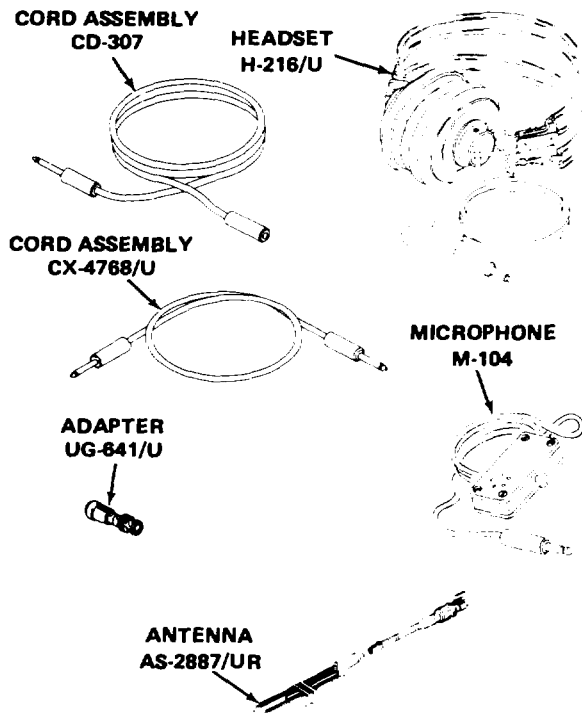

Figure 1-9. Additional Items that are Included with the Unit
f. Other Items. There are several other items that are supplied as part of the radio receiving sets. Refer to figure 1-9.